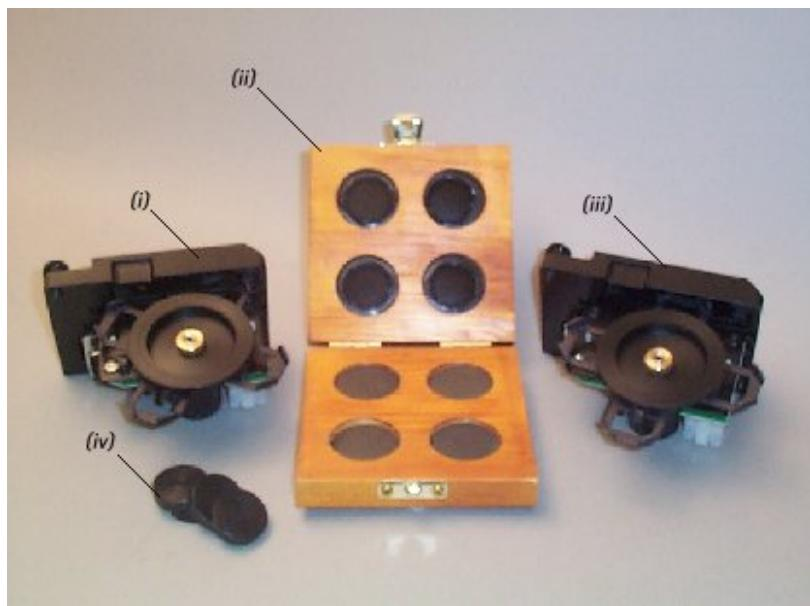
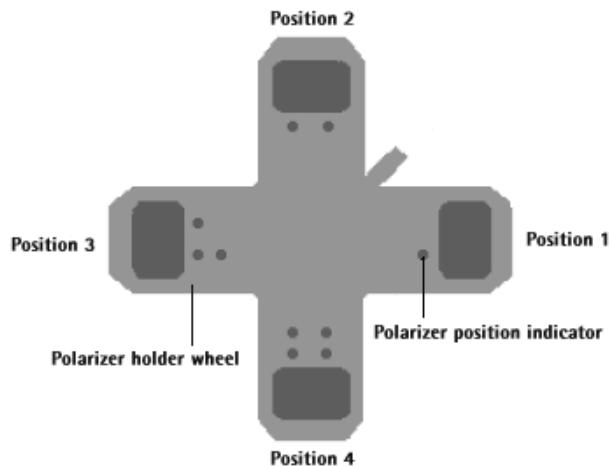

Figure 1. i) & iii) Two automated polarizers ii) Vertical and horizontal polarizers iv) Four black disks
Figure 3a. Polarizer positioning
The accessory consists of four metal arms extending from a central wheel (Figure 1 (*i*)). Each arm is labeled as 1, 2, 3 or 4 by holes etched into the wheel, just below the filter position, (Figure 3a).
Your accessory is packed in a foam-lined cardboard box. Inside the box you will find a wooden case that contains 2 vertical and 2 horizontal polarizers (Figure 1 (ii)), a plastic bag containing 4 black plastic disks (Figure 1 (iv)), and 2 cardboard boxes, each containing a motorized wheel, into which the polarizers must be mounted. Check that you have received all of the items in the accessory kit by referring to the packing list included with the shipment (Figure 1).
- 2** Polarizers now need to be placed in the accessories. There are four spaces, each labeled 1 to 4 by holes etched into the arms of the polarizer holder, (Figure 3a).